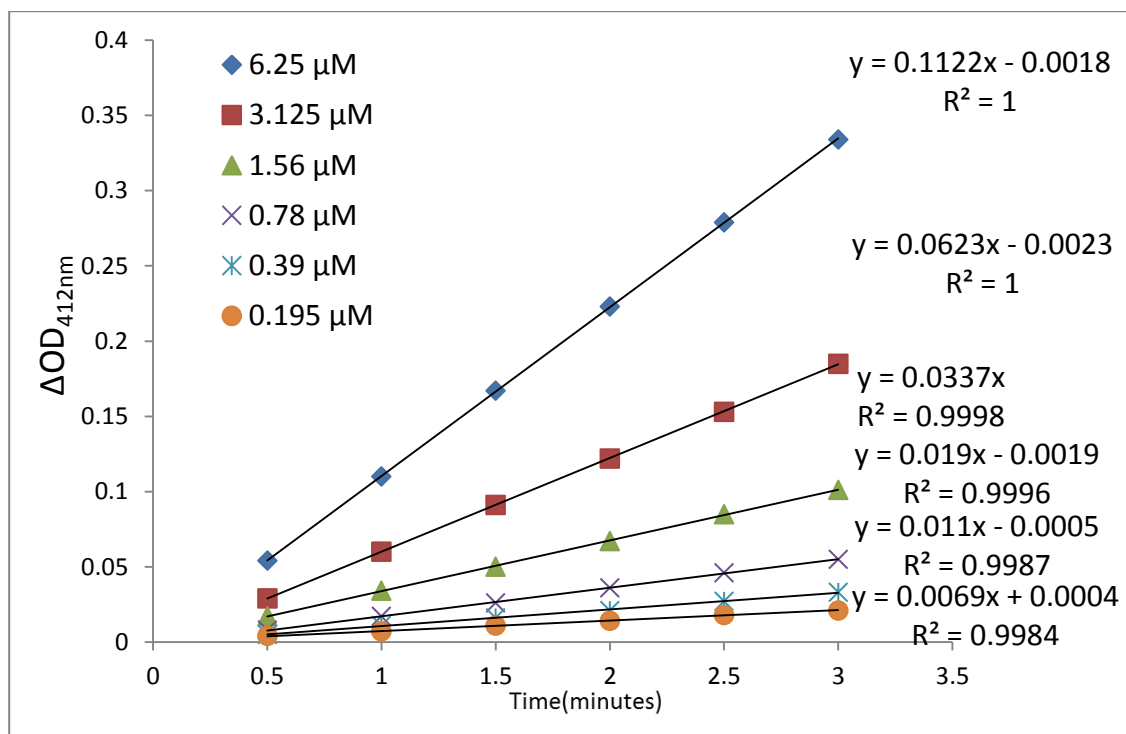

Figure 1. Standard curves of ΔOD_{412nm} vs. reaction time for GSSG solution with different activity.
Data from the GSH/GSSG Ratio Assay kit measuring GSSG solutions with concentrations ranging from 0.195 to 6.25 µM show a linear relationship between OD_{412nm} and GSSG concentration (Figure 1). Linear detection range is 0.05 µM to 6.25 µM in 96-well plate assay.
2. Based on the $\Delta\text{OD}_{412\text{nm}}$ of the GSSG standard solutions, plot the absorbance at $\Delta\text{OD}_{412\text{nm}}$ as a function of reaction time (Figure 1) to calculate $\Delta\text{OD}_{412\text{nm}}/\text{min}$. Subtract the measured $\Delta\text{OD}_{412\text{nm}}/\text{min}$ at a different reaction time from the blank.
Figure 2. Standard curve of $\Delta OD_{412nm}/min$ vs. concentration of GSSG. The $\Delta OD_{412nm}/min$ is calculated as the slope of the standard curves shown in Figure 1.